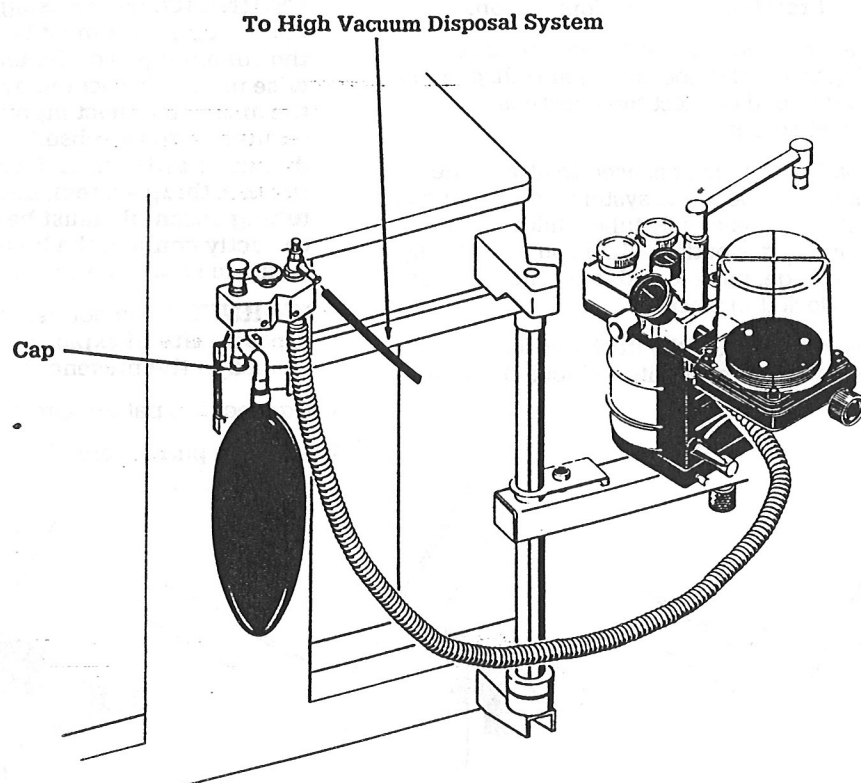

Figure 2-25
2. Connect one end of a yellow-banded, 19-mm tube to the 19-mm connector on the absorber interface manifold. This connector is labeled "Excess Gas Outlet 19-mm" on the absorber. (See figure 2-25.) See Appendix E for information about using the ventilator with absorbers other than Ohmeda GMS Absorbers.